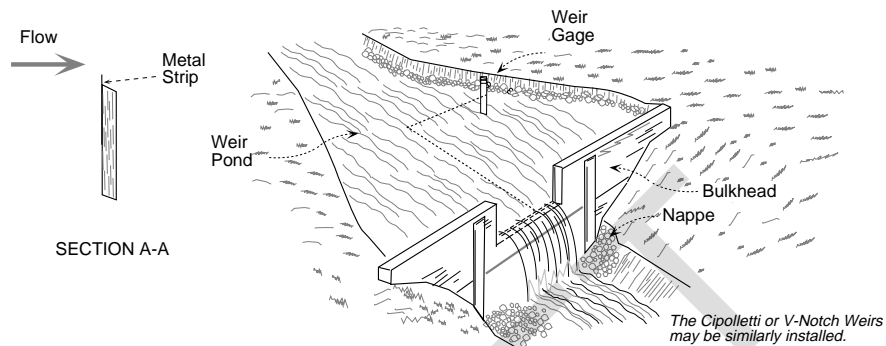

Figure 12. Standard contracted weirs, and temporary discharging at free flow.
(3) Flumes and Weirs
- (b) The weir (see Figure 12) or flume should be located close to the pump. There should be a permanent recorder on the device as well as means of making manual measurements (e.g., staff gage).
(4) Pitot Tube